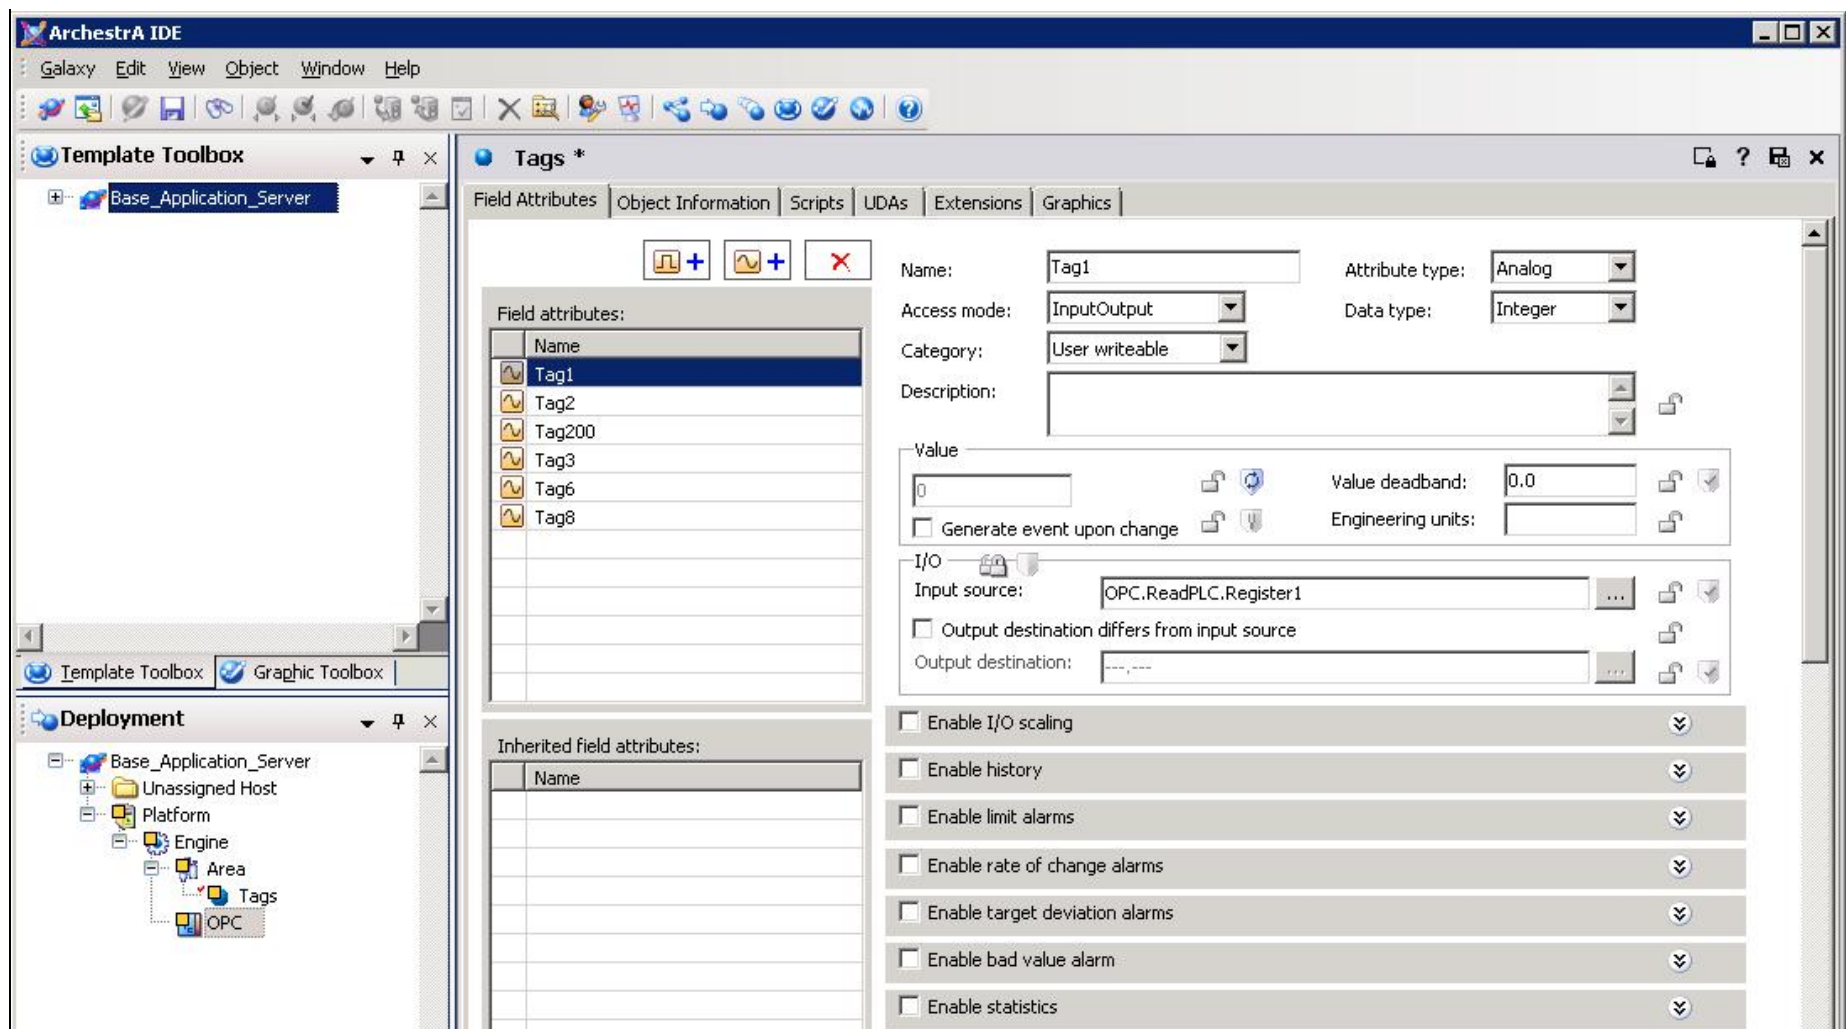

FIGURE 5: ANALOG FIELD ATTRIBUTE AND INPUT SOURCE
2. Create six analog Field attributes (Figure 5 below).